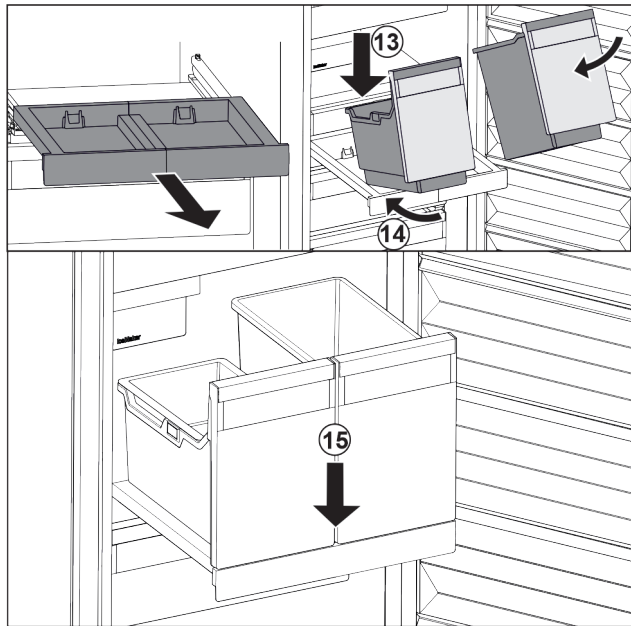

Fig. 101
- Place the container at an angle on the pull-out board. Fig. 101 (13)
- Slide in the container at an angle to the back. Fig. 101 (14)
- Place container at the front. Fig. 101 (15)